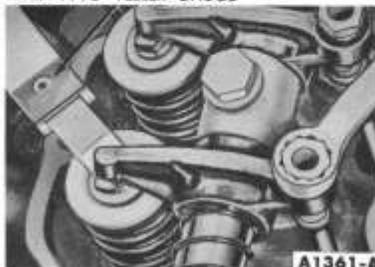

FIG. 19—Valve Lash Adjustment
With the engine idling, set the valve lash (Fig. 19) using a step-type feeler gauge only ("go" and "no go").
4. Adjust the intake and exhaust valve lash for No. 1 cylinder (Fig. 19). The preliminary (cold) intake and exhaust valve lash is 0.016 inch. Use a step-type feeler gauge ("go" and "no go") to adjust the valves.